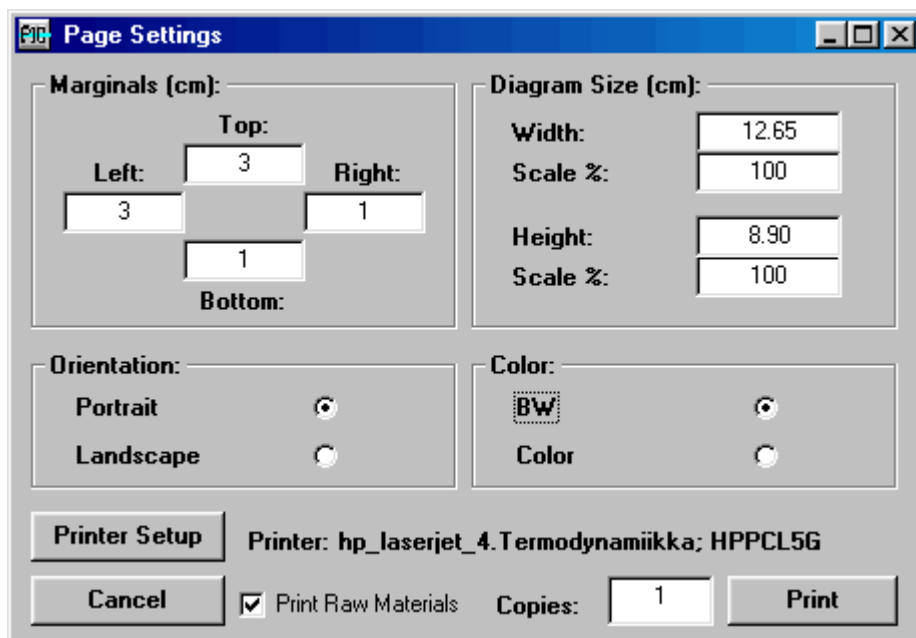

Fig. 14. HSC print dialog for graphics.
7. When you are satisfied with the diagram you can print it by pressing **Print B&W**. If you have a color printer press **Print Col**. The print dialog gives several useful options for a hard copy, see Fig. 14.